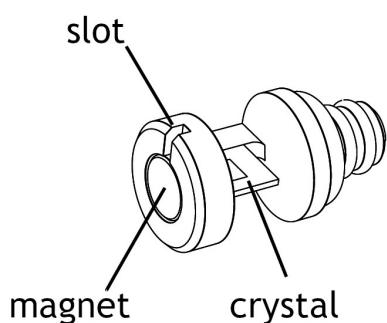

Figure 3.7.: Crystal module
5. Insert new crystal module (ensure slot on crystal module fits into pin of container) (see Figure 3.7).